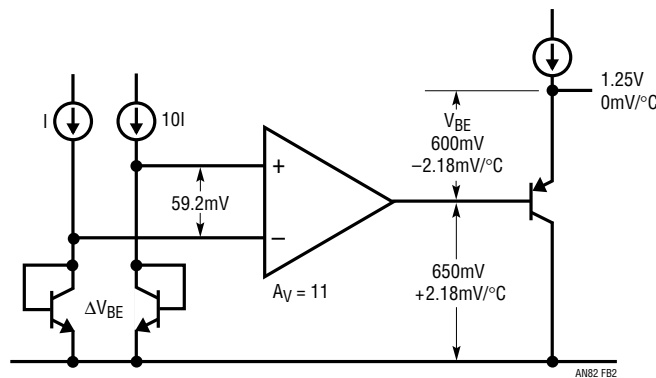

Figure B-2. A Bandgap Reference is Formed by Stacking a ΔV_{BE} Generator and a V_{BE}
Calculating the current ratio required to produce $+2.18mV/^\circ C$ (corresponding to 650mV offset) we find that it is unmanageably large, about $9.44 \cdot 10^{10}:1$. In practice, a much smaller offset is generated by a ΔV_{BE} cell and then amplified to 650mV. As an example, see Figure B-2. Using a 10:1 current ratio,** we find a room temperature offset from Equation (2) of 59.2mV, and a temperature coefficient of $199\mu V/^\circ C$. Applying a gain of slightly less than eleven brings us to 650mV and $+2.18mV/^\circ C$.